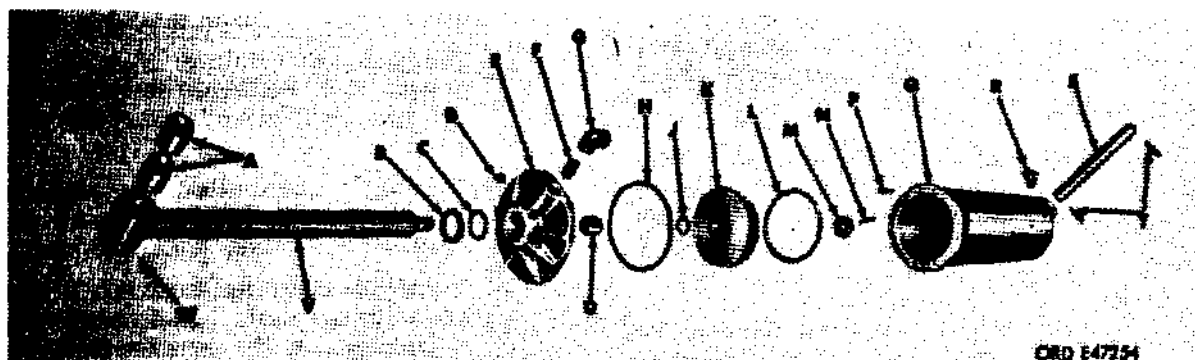

Figure 465. Lift cylinder assembly - exploded view
(1) Remove lift cylinder piston and rod (fig. 465).
- (a) Remove 12 safety nuts (D) and remove lift cylinder head (E) with piston and rod from lift cylinder (Q).